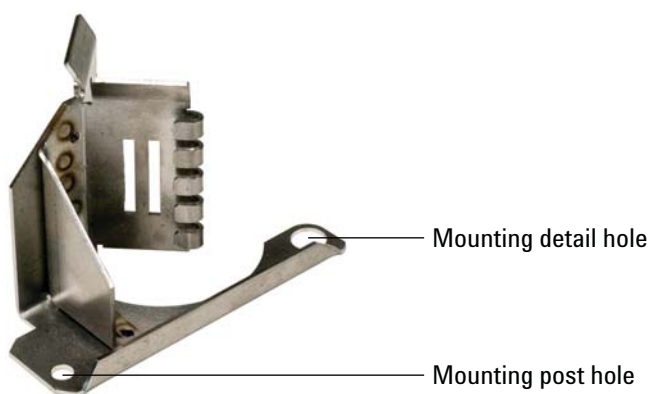
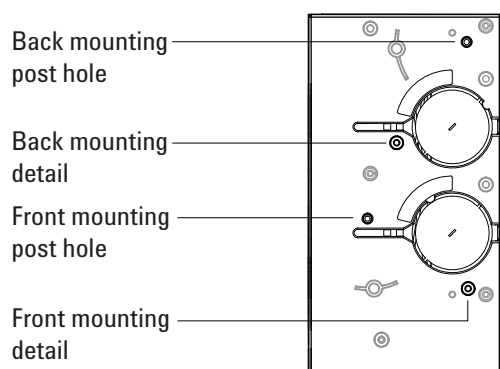
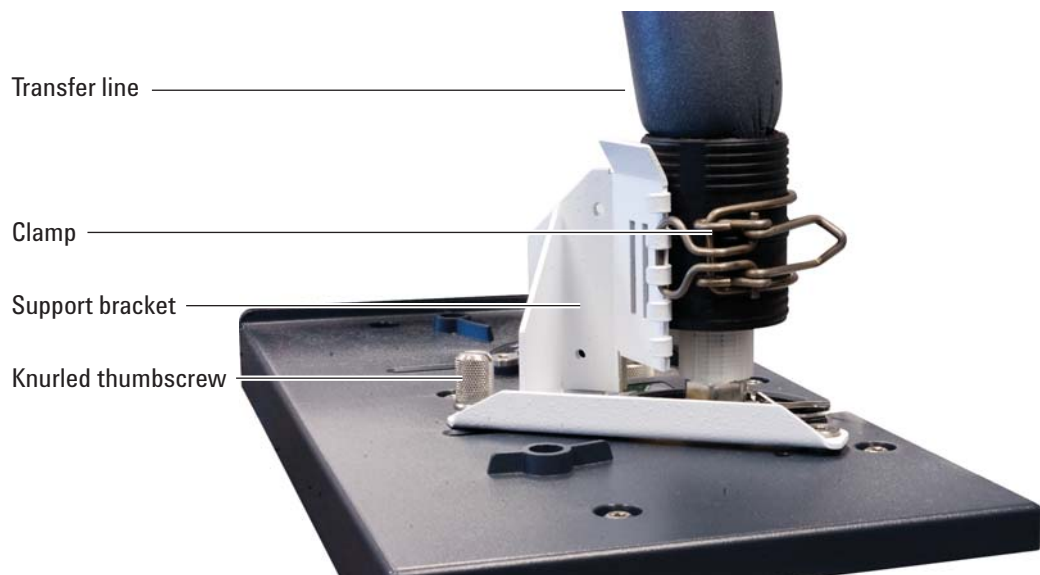

Figure 2 Locator holes on the support bracket
Figure 3 Mounting location for support bracket, Agilent 7890A GC inlet cover shown
Figure 4 Transfer line installed onto an Agilent 7890A GC inlet
- 3 Place the transfer line support bracket on the inlet chasis cover. The locator holes on the support bracket (Figure 2) should align over the holes for the inlet mounting post and the mounting detail (Figure 3 and Figure 4).
- 5** Install the clamp onto the bracket. Align the clamp so that it supports the transfer line as high as possible above the GC (Figure 4).